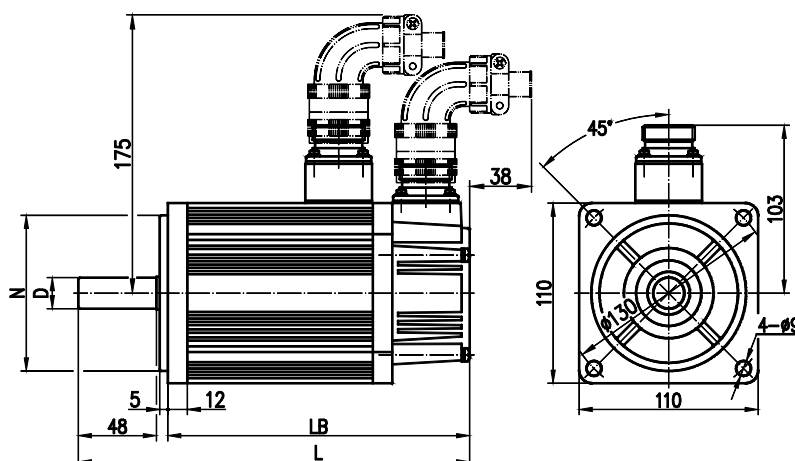

Fig. 2-2
- For external dimensions of 110SJT series motor, see figure 2-2, table 2-2.